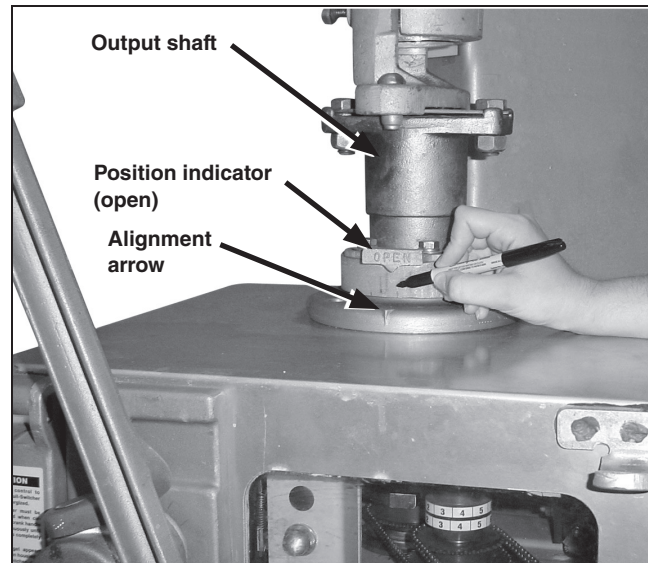

Figure 11. Adjust the position indicator. Mark the direction of operator rotation.
- STEP 4.** With the selector handle in the **Coupled** position, crank the Alduti-Rupter Switch to the fully **Open** position, and then to the fully **Closed** position, and in each position accurately align the SWITCH POSITION indicators on the output shaft collar of the switch operator with the alignment arrow below. See Figure 11 on page 18.
- (b) Temporarily mark on the top of the switch operator enclosure the direction in which the output shaft rotates to close the Alduti-Rupter Switch. See Figure 11.
- STEP 2.** If adjustment of either position indicator is necessary, remove the motor-circuit fuse holder, loosen the two set screws on the position indicator, and rotate the position indicator to the desired position. Retighten the set screws. See Figure 11 on page 18.